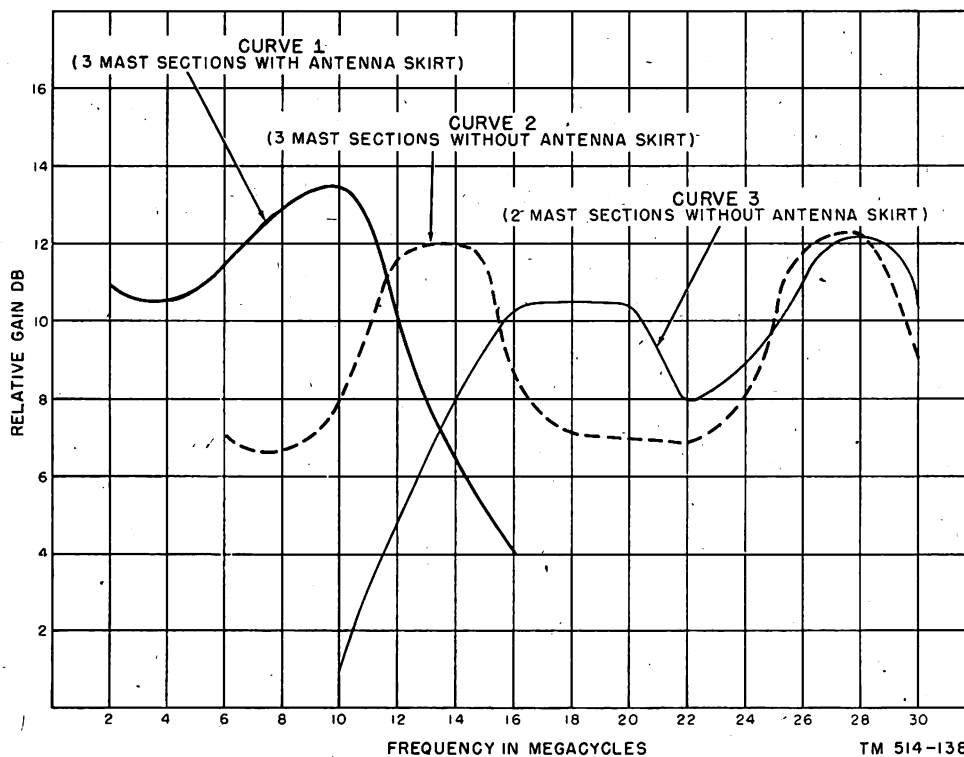

Figure 23. Relative gain versus frequency curves for the three high-frequency antenna combinations.
b. **HIGH-FREQUENCY COMBINATIONS.** There are three h-f antenna combinations (B, C, and D, fig. 6). For any h-f combination, use one Support MT-333/CRD-2 in each of the four horizontal arms and install Coupling Unit CU-69/CRD-2 in Junction Box J-96/CRD-2. Also place the SENSE switch on each of the four Antenna Coupling Units CU-34/CRD-2 at the H position. The number of mast sections to be used in each monopole and whether or not antenna skirts are to be used are functions of the frequency range to be covered by the radio set. The proper h-f combination can be selected by referring to figure 23 to determine which combination will produce the best average performance over the desired frequency range.